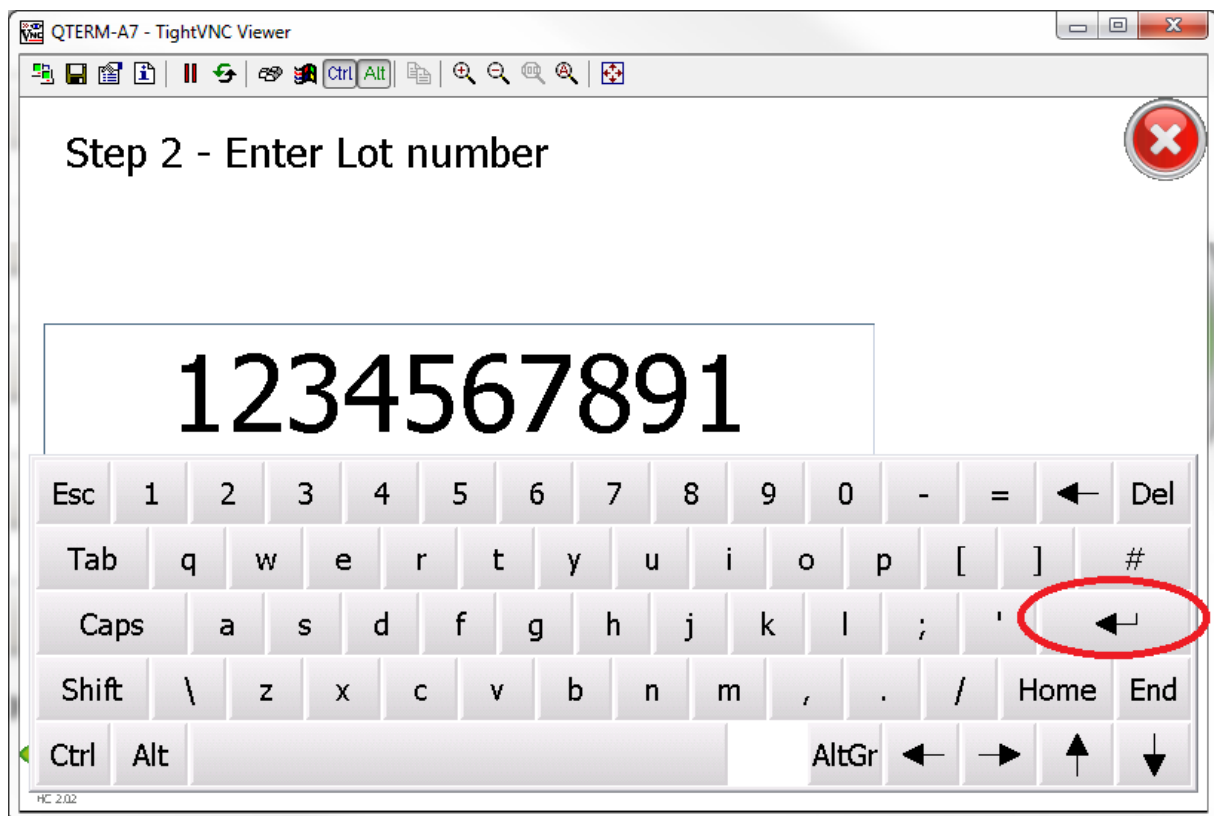

Figure 40: Step 2 - Enter Lot number
1. Type in a new lot number (maximum 10 alpha numeric characters) then press Enter (circled in red on Figure 40)